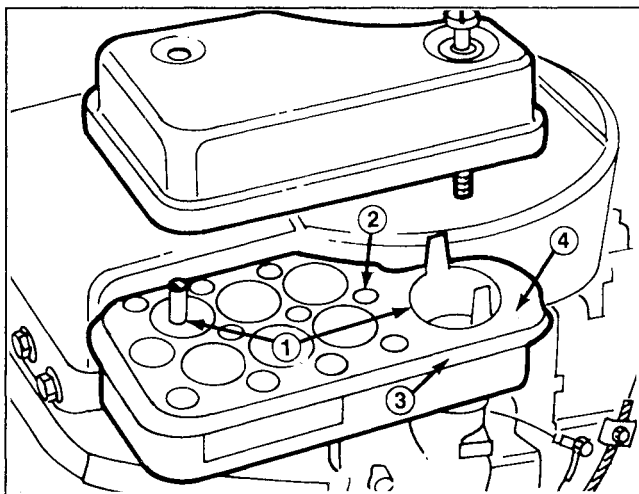

Figure 11
3. Remove cover and screen from foam element, remove spacers from element and element from body (Fig. 11). Examine element for dirt or discoloration and clean if necessary.